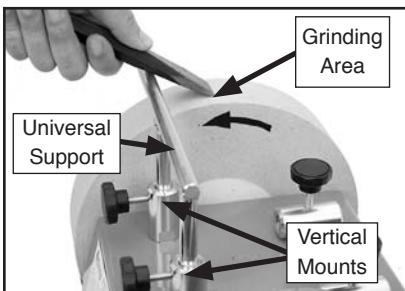

Figure 7. Vertical mount.
3. Attach the universal support in the vertical mounts, as shown in **Figure 7**. Be sure it is securely positioned and will not move during grinding. Re-connect the grinder to power.